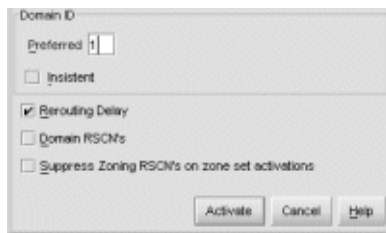

Figure 19: Configure Switch Parameters dialog box
2. Choose **Configure > Operating Parameters > Switch Parameters**. The Configure Switch Parameters dialog box displays (Figure 19).